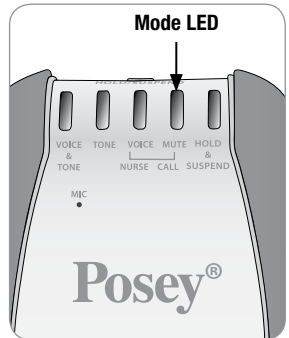

Fig. 9
2. Ensure alarm is on and either sensor pad, chair belt sensor, or magnet is attached to alarm. Ensure pressure is on sensor pad, chair belt sensor is connected, or magnet is on face plate (green LED flashes above mode selection, yellow LED flashes if mode is set to "Mute" (Fig. 9).